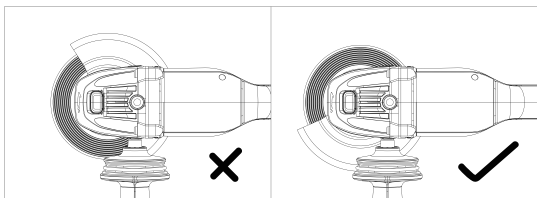

Fig. 7
5. Position the blade guard fixture securely over one of the bulges on the blade guard to ensure proper placement.(Fig. 7)
6. Confirm that the blade guard fixture is firmly seated in the respective bulge for added safety.(Fig. 7)